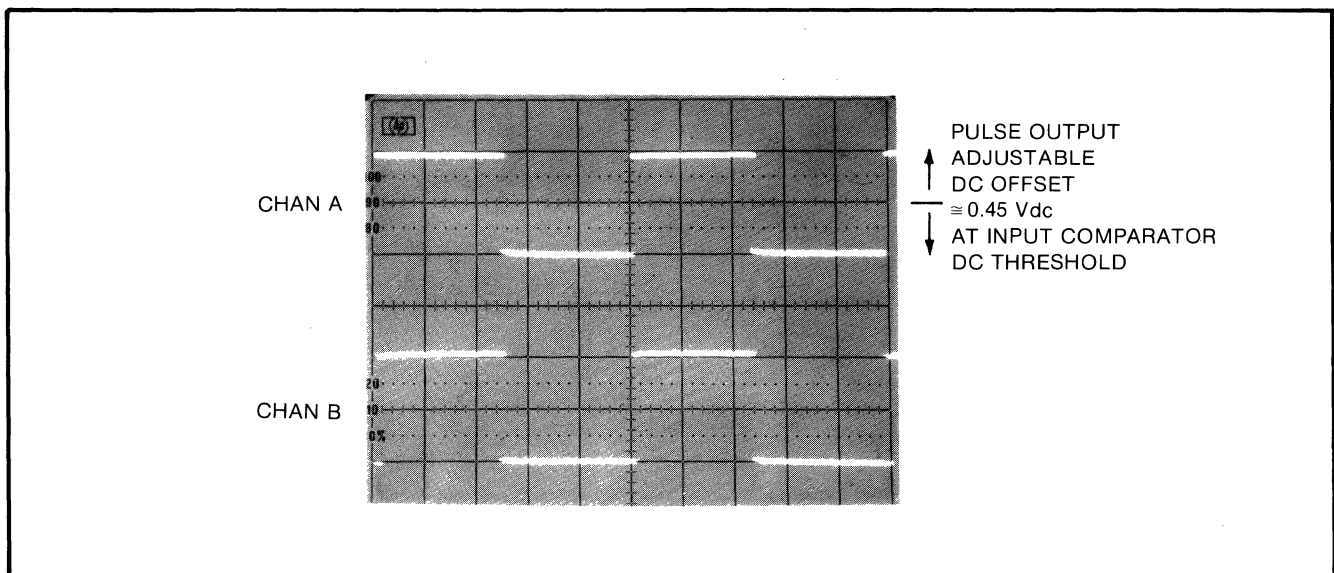
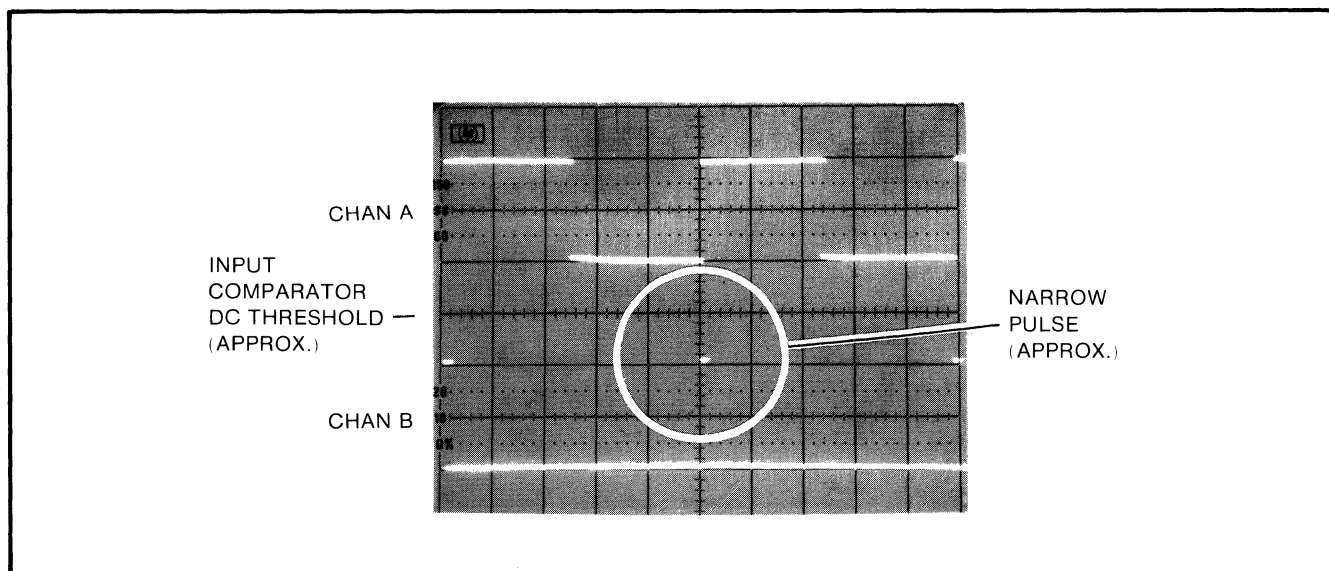
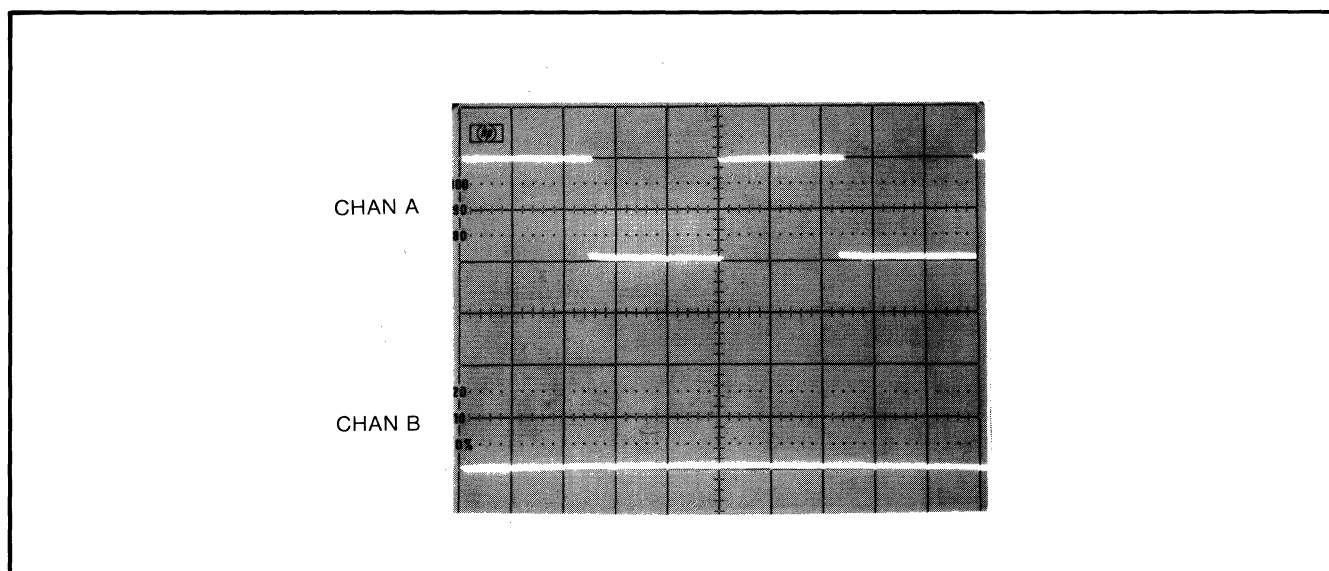

Figure 5-4. Voltage Comparator Triggering
Figure 5-5. Proper Compensation (Intermittent)
Figure 5-6. Narrow Pulse Tuned Out
g. Begin with the Pulse Generator OFFSET VERNIER set to the fully negative position. Due to the hysteresis of the comparator circuitry, it is important for the input voltages to approach the trigger level from the negative direction. Using the OFFSET VERNIER, slowly raise the DC offset of the input signal until the voltage comparator output (U21 pin 10), displayed on Channel B of the oscilloscope, triggers as shown in *Figure 5-4*. The Channel A POSN (position) control should be readjusted as needed to return the input waveform to the display. Using the OFFSET VERNIER, decrease the DC offset slightly, and slowly increase it again until it just begins to trigger.
h. If the comparator circuit is properly compensated, the comparator output squarewave will “snap in” on Channel B (Figure 5-4). If the comparator circuit is uncompensated, the voltage comparator output will be displayed as a narrow pulse on Channel B (see Figure 5-5). Adjust A1C33 in the 5006A until the narrow pulse is tuned out as shown in Figure 5-6.